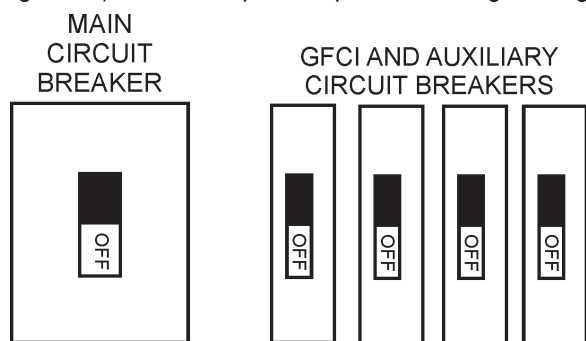

Figure 25. Main, GFCI, and Auxiliary Circuit Breakers (OFF)
- Place the **main, G.F.C.I.**, and **aux.** circuit breakers (Figure 25) in the **OFF** position prior to starting the engine.
1. Place both the **main**, **GFCI**, and **aux.** circuit breakers as shown in Figure 25 to the **OFF** position.
2. Place both the **main**, **GFCI**, and **aux.** circuit breakers as shown in Figure 25 to the **OFF** position.